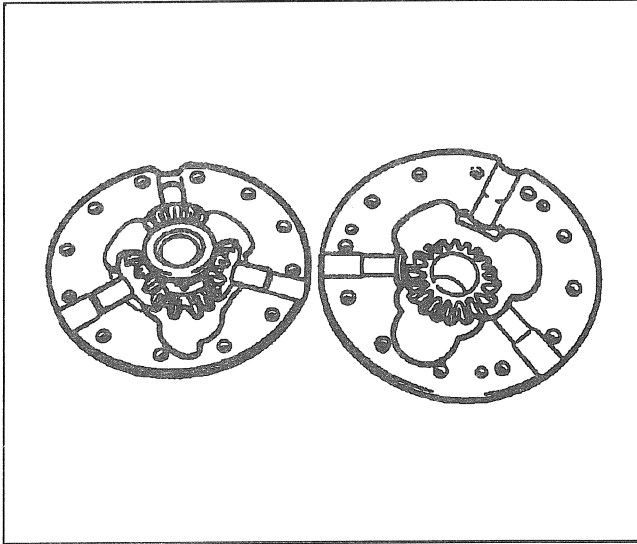
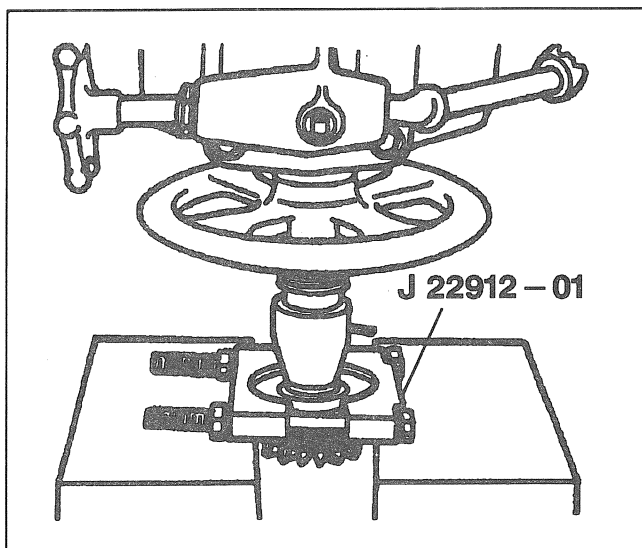

Figure 10—Differential Case Halves
Figure 11—Removing the Thrust Sleeve
2. Case screws (32).
3. Case halves (Figure 10).
4. Governor assembly (48).
5. Latching bracket assembly (43).
6. Left side gear (46).
7. Left side clutch plates (44) and guide clips (47).
8. Left side gear thrust washer (45).
9. Reaction blocks (41), pinion yoke (42), pinion gears (39), and pinion thrust washers (38).
11. Right side gear thrust washer (36).
- Measure and record the overall length of the gear assembly from the front of the gear to the back of the thrust sleeve (35) including the side gear thrust washer (36).
12. Thrust sleeve (35) using J 22912-01.
- Press the sleeve from the side gear (Figure 11).